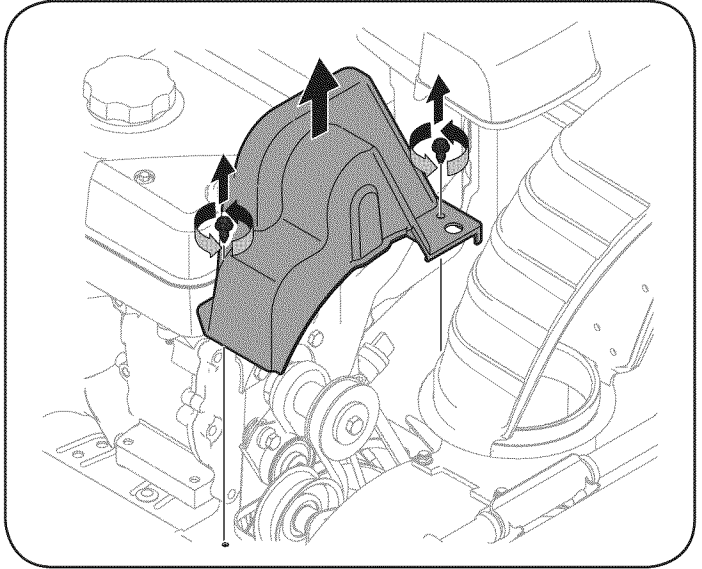

Figure 24
2. Remove the plastic belt cover on the front of the engine by removing the two self-tapping screws. See Figure 24.